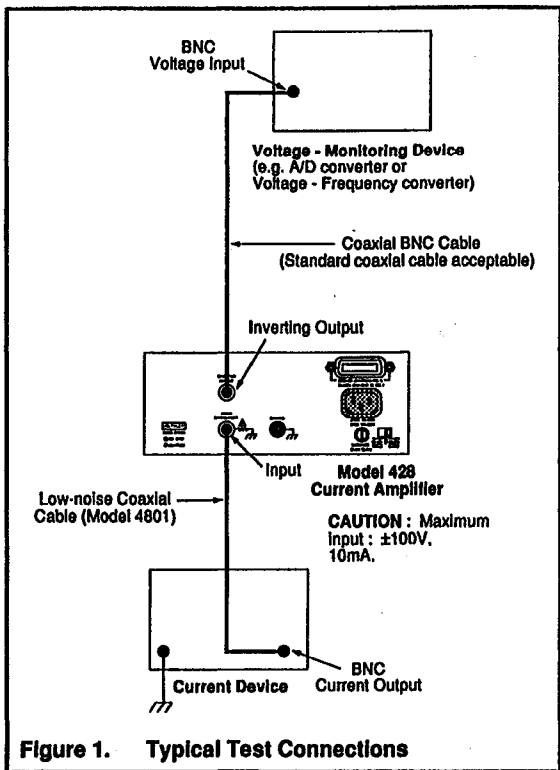

Figure 1. Typical Test Connections
- 4. Do not exceed the maximum input levels as defined in the specifications (see Figure 1 of this guide and the Model 428 Instruction Manual).**